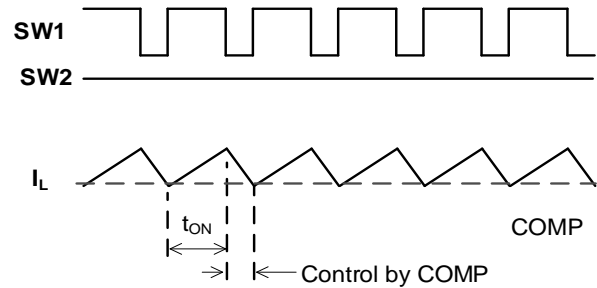

Figure 4: Buck Waveform
When I_L drops to the COMP voltage (V_{COMP}), SWB turns off and SWA turns on. SWA turns on for a fixed on time before turning off. Then SWB turns on again, and the operation repeats. The COMP signal is the error amplifier's (EA) output from the V_{OUT} feedback and internal FB reference voltage (see Figure 4).